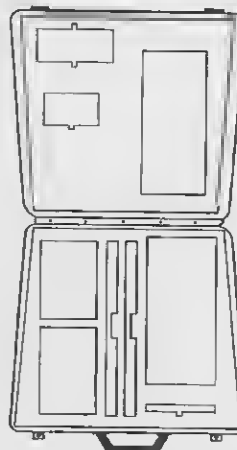

Figure 1-8. Carrying case.
(4) *Carrying case (fig 1-8).* The carrying case is used to transport the APS, components, and a few accessories inside a field hospital environment.